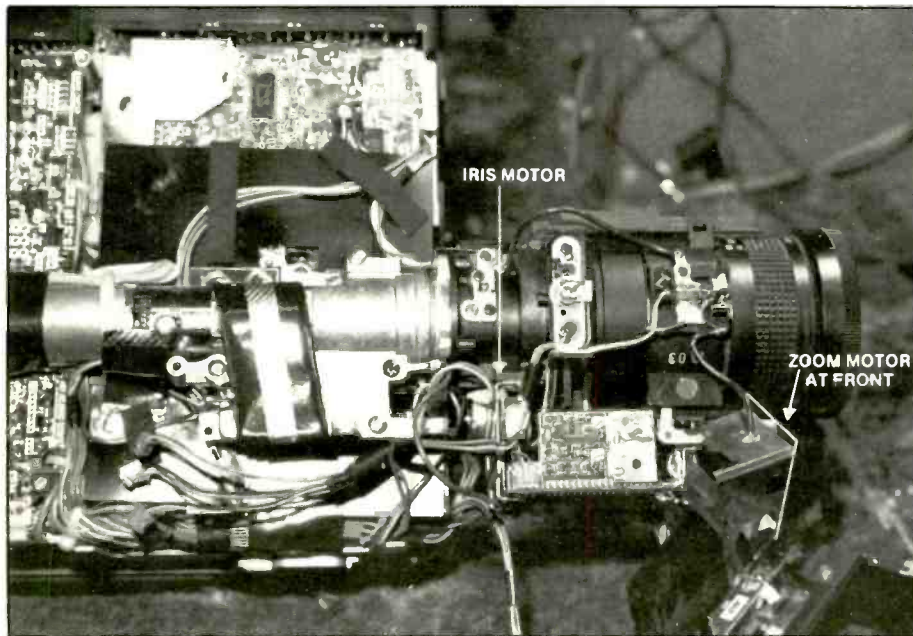

Figure 8. The location of the zoom and iris motors in a Quasar VM10 camcorder.
The focus and zoom motors are located on the lens board assembly. The zoom motor brings the image up close from far away. The power zoom (PZ) motor is operated independently with a TELE or WIDE switch operation (Figure 8). Often, the zoom switch is located near the hand that holds and operates the camcorder. The dc zoom motor may operate from transistors, in the early models, or IC components in the later camcorders, and may operate directly from the system control IC. The zoom motor may have an IC driver, ahead of the motor assembly, like all other motors in the camcorder. Notice the voltage applied to most zoom motors is very low (0 to 6.5V).